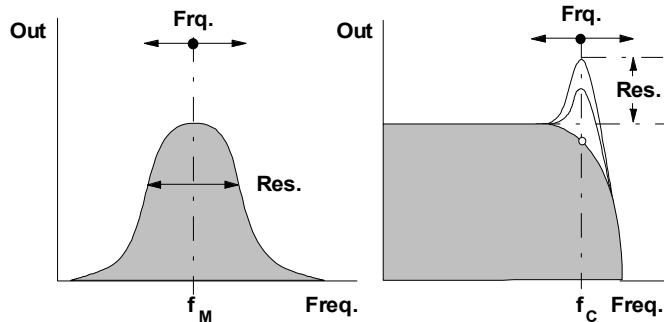

Fig. 2: Frequency response of band pass and low pass
② Freq.
Control ② is used to adjust the **filter frequency** (see fig. 2):
③ Resonance
Control ③ is used to adjust the **filter resonance** (or emphasis or Q, see fig. 2):